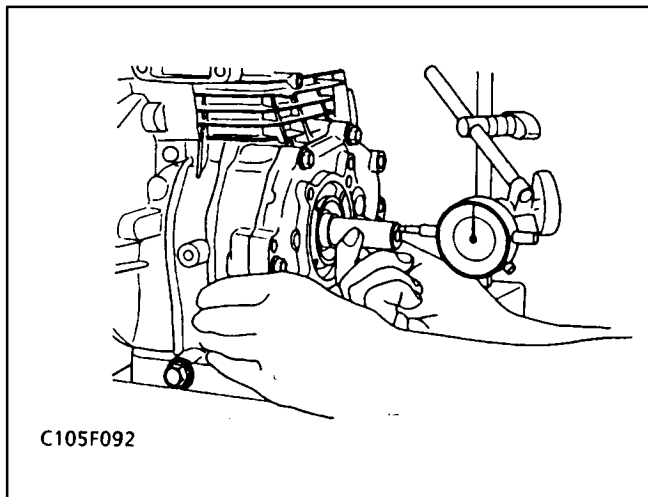

FIGURE 10-33. SIDE CLEARANCE OF
1. Set a dial gauge, as shown in Figure 10-33, push the shaft in and measure the clearance.